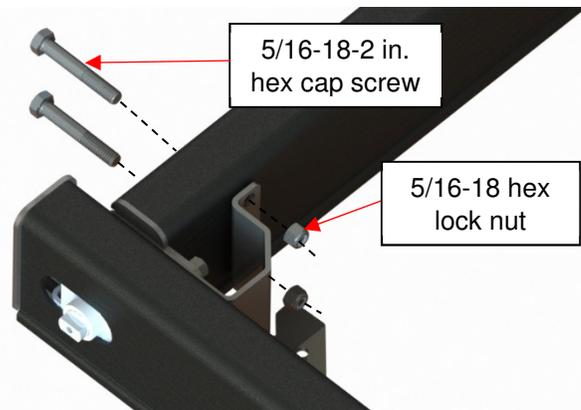

Figure 81
- 11) Slide the corner cover over the junction between the 2 U-frames and secure it in place with the 2 painted #10-24-1/2 in. Phillips screws. (Figure 81)